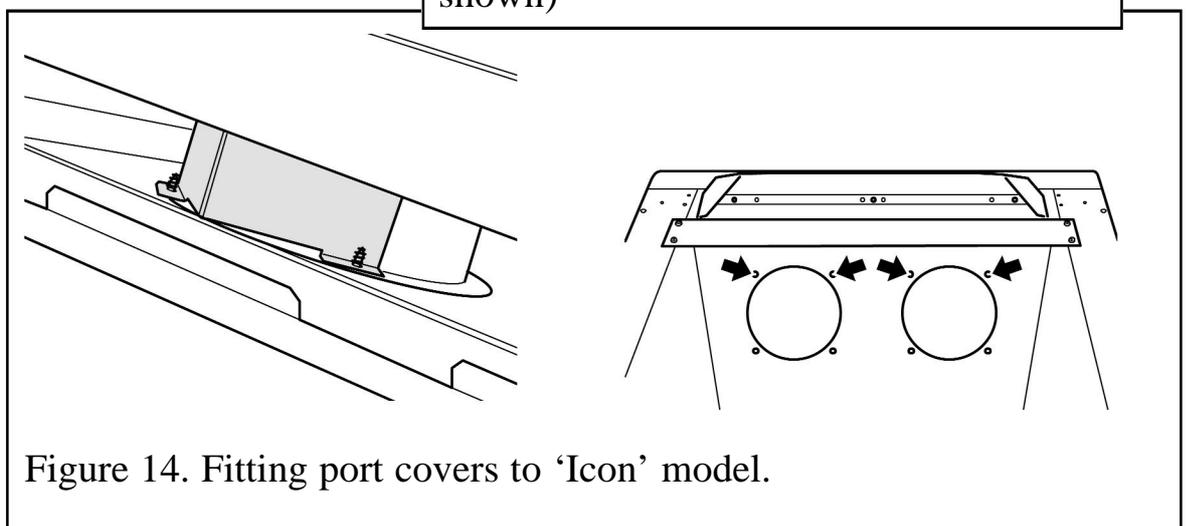

Figure 14. Fitting port covers to ‘Icon’ model.
7. The ‘Icon’ fascia is supplied with two port covers. To fit the port covers unscrew the four cross over port screws shown in figure 14. Put the port covers in place and refit the screws previously removed. *Ensure that the screws are tight and that the cross over ports have returned to their original position. Also check that there are no gaps between the cross over ports and the surfaces they are screwed to* (See figure 14).